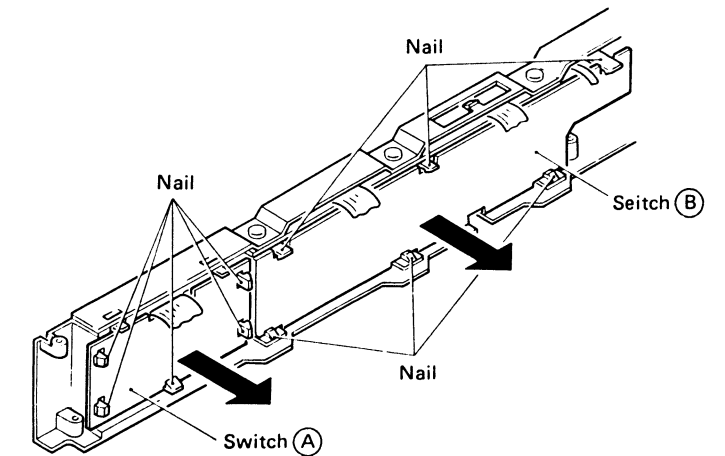

Fig. 9
4. How to remove the Switch Unit P.W.B. (Fig. 9)
- A. Switch (A) Unit P.W.B.